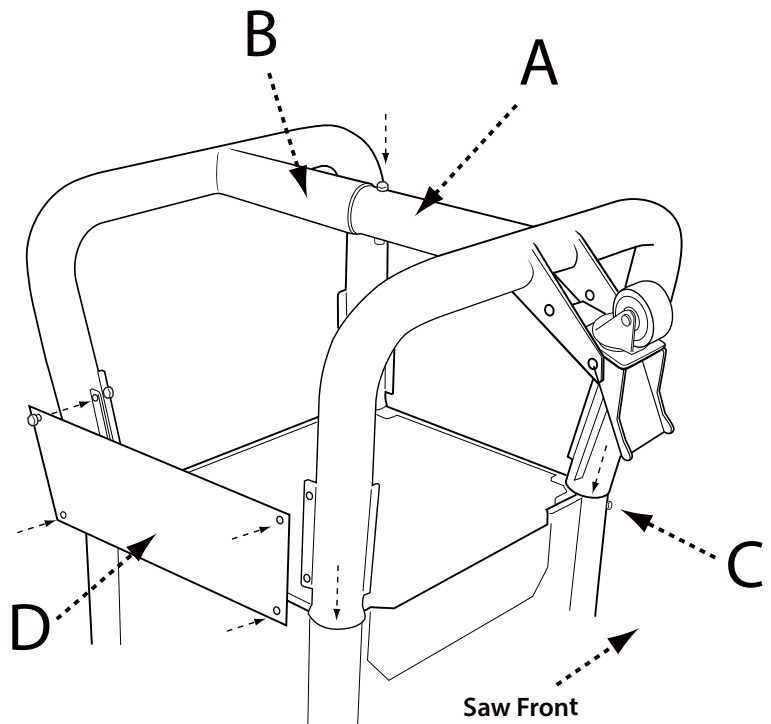

FIGURE 1
1. Connect the two tube legs by inserting the end of the left leg (A) into the end of the right leg (B) as shown in Figure 1. Secure with a M8 x 70mm carriage bolt, lock washer and nylock nut and tighten.
2. Insert the four open ends of the tube legs into the leg collars (C) as shown. Secure each leg with a M6 x 72mm bolt and nut.
3. Attach the back and front leg support panels (D) to the legs using four M6 x 10mm self-tapping bolts.